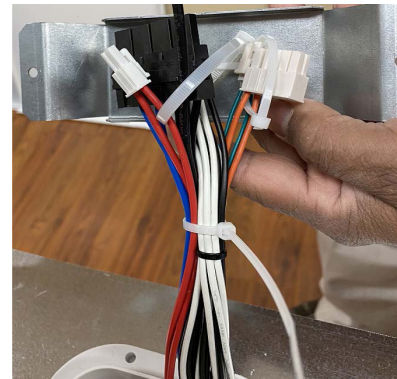

Fig. 56 Lift harness
2. Lift harnesses until taught - approximately 6" (Fig. 56).